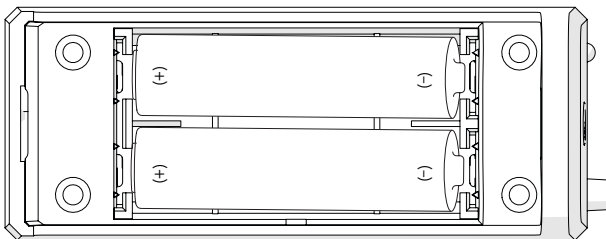

Figure 4 Batteries in the ZSC
1. Insert the two AA batteries (included) into the ZSC (Figure 4).